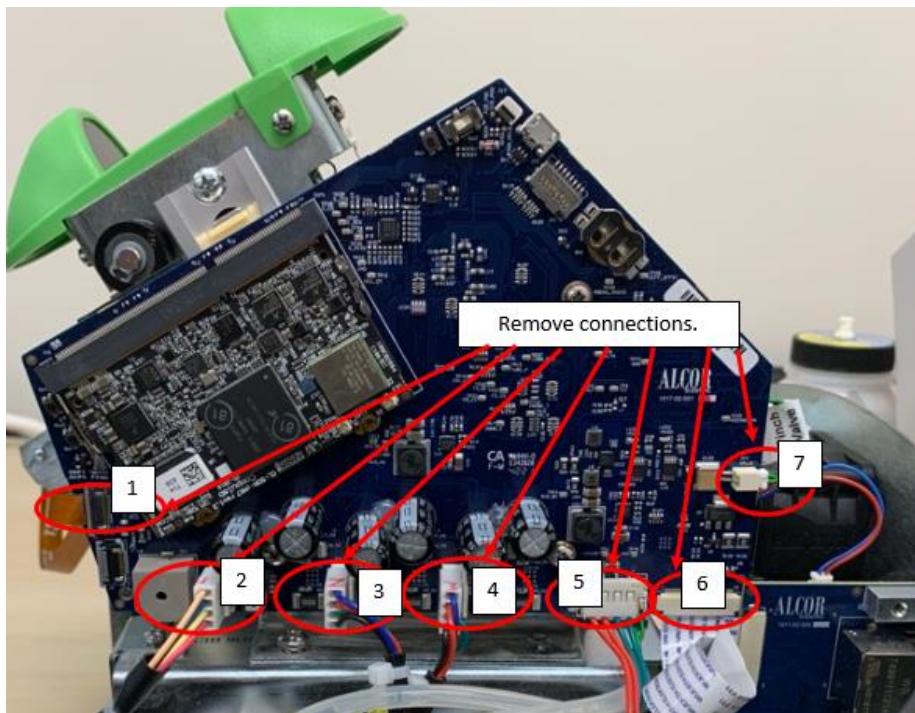

Figure 7
- 2.6. Remove all other connections (Barcode Scanner [1], Inverter Motor [2], Wash Pump Motor [3], Primary Pump Motor [4], Power Cable Connector [5], FFC Cable [6], Pinch Valve [7]) by releasing tabs and pulling cable from each connection per Figure 7.